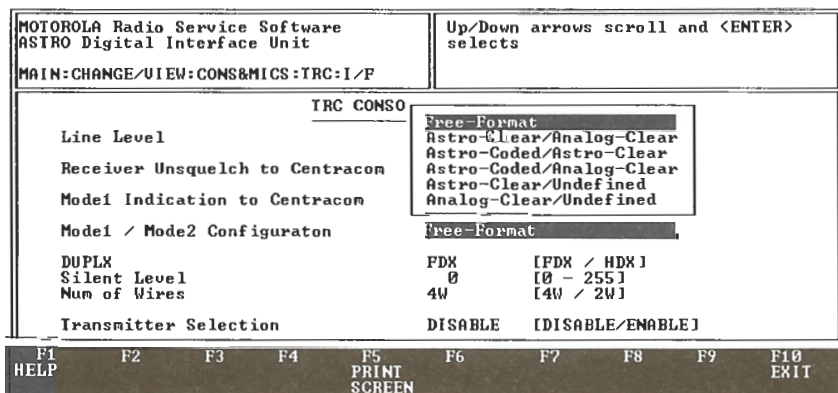

Figure 6
Step 9. Set the Mode1/Mode2 Configuration parameter as required (see Figure 6).